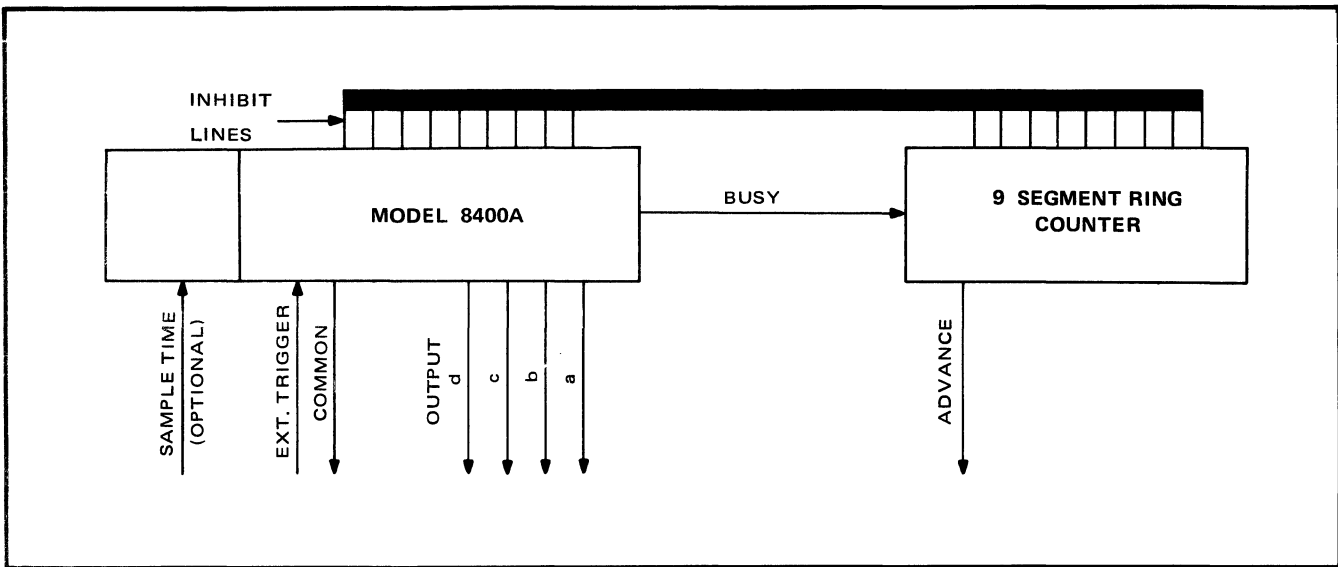

Figure 2-9. MINIMUM LINES ACQUISITION
- a. Place a customer fabricated 9-segment ring counter near the 8400A and interface as shown in Figure 2-9.